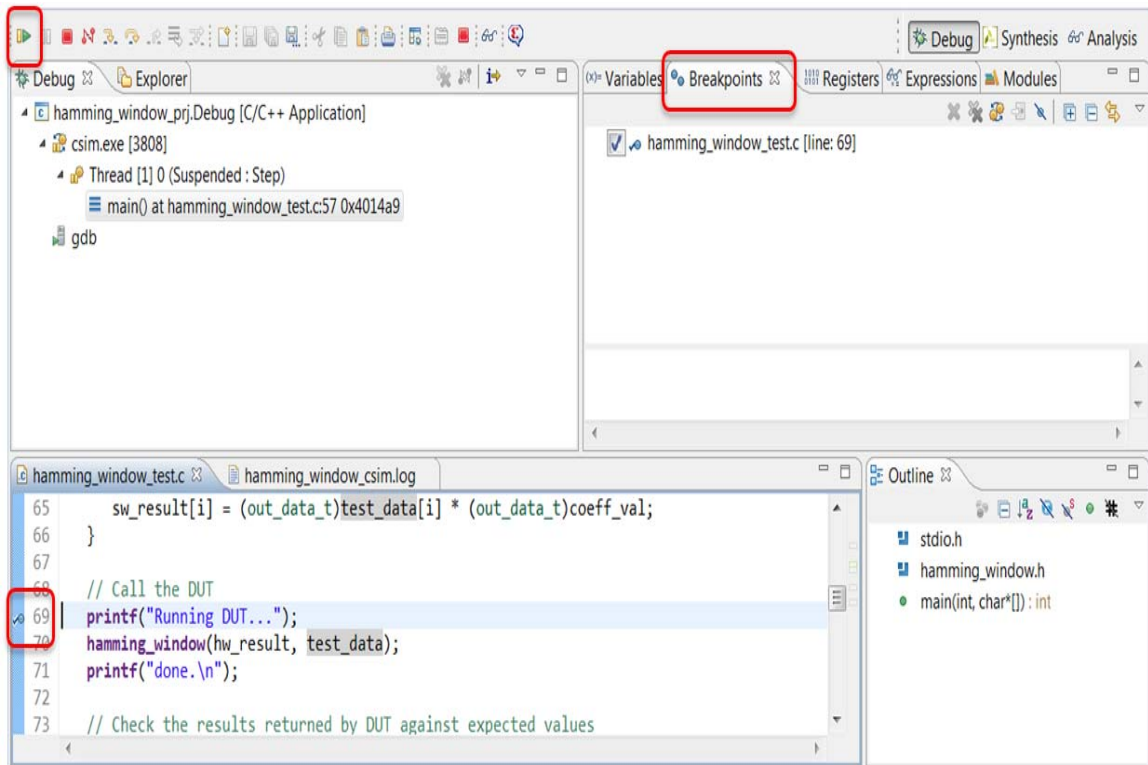

Figure 3-11: Using Breakpoints
8. Place the cursor in the left-hand margin on line 69, right-click with the mouse button and select **Toggle Breakpoint**. A breakpoint (blue dot) is indicated in the margin, as shown in Figure 3-11.
9. Activate the Breakpoints tab, also shown in Figure 3-11, to confirm there is a breakpoint set at line 69.
10. Click the **Resume** button (highlighted in Figure 3-11) or the F8 key to execute up to the breakpoint.